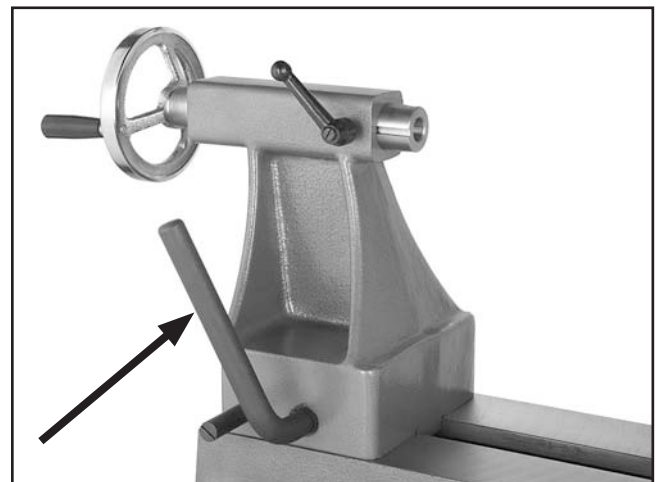

Figure 19. Tailstock lock handle.
1. Loosen the tailstock lock handle and move the tailstock to the desired position along the bed (see **Figure 19**).